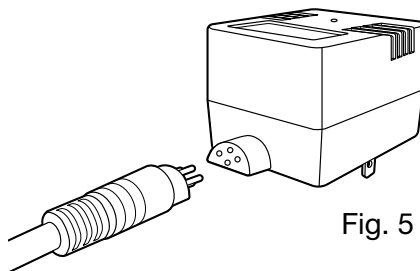

Fig. 5
5. Attach the ballast to the power cord. Use care to align the 4-pin plug properly. **DO NOT FORCE.** The power cord is designed to connect only one way (Fig. 5).